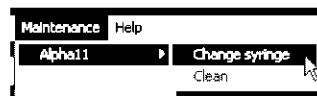

Figure 155: Change syringe option in the Maintenance menu
2. From the *Maintenance* menu select the appropriate Processing Module then select "Change syringe" (see Figure 155).